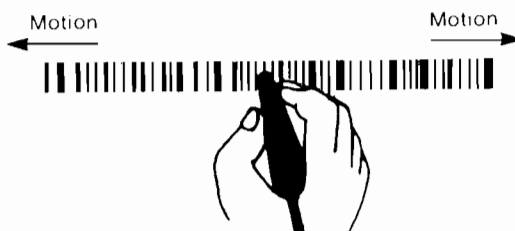

Figure 3. Scanning the Label Smoothly from End to End
3. Place the tip of the Smart Wand on the white margin on either side of the bar code label to be scanned. "Whisk" the wand smoothly and lightly through the bar code label from margin to margin without lifting the tip of the wand from the surface of the label, as if the wand was being used to draw a line through the bar code label. (See Figure 3.)